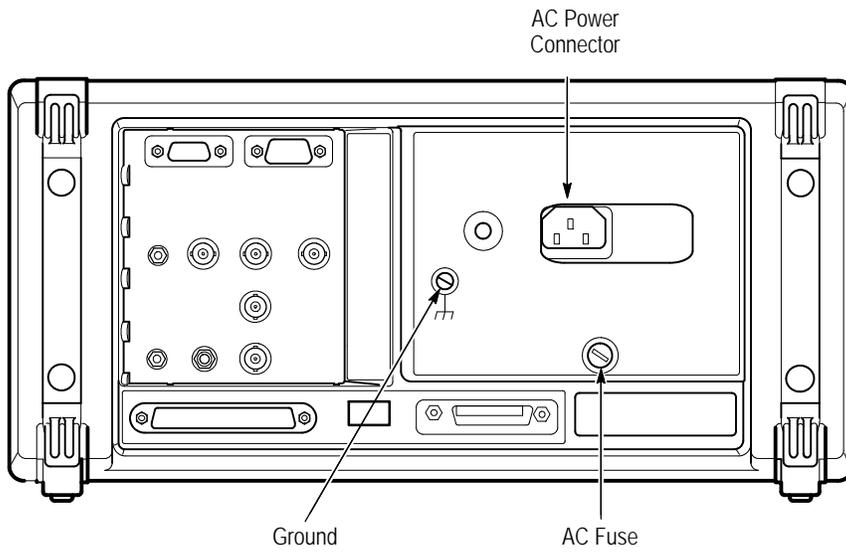

Figure 1 4: Rear-Panel Controls and Connectors Used in Setup
3. Check the fuse to be sure it is the proper type and rating (see Figure 1 4). The CTS850 works with one of two fuses, depending on the AC supply. Each fuse requires its own cap (see Table 1 2). The CTS850 is shipped with the UL-approved fuse installed.